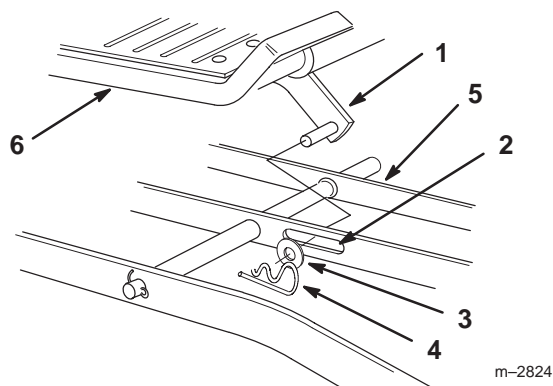

Figure 5
6. Slide the mower under the tractor from the right side and slide the attachment lift between the center and left side level bar (Fig. 5).
8. Place the attachment lift pin into the slot in the center lever bar and secure it with a washer (3/4 inch) and a hairpin cotter (Fig. 5).